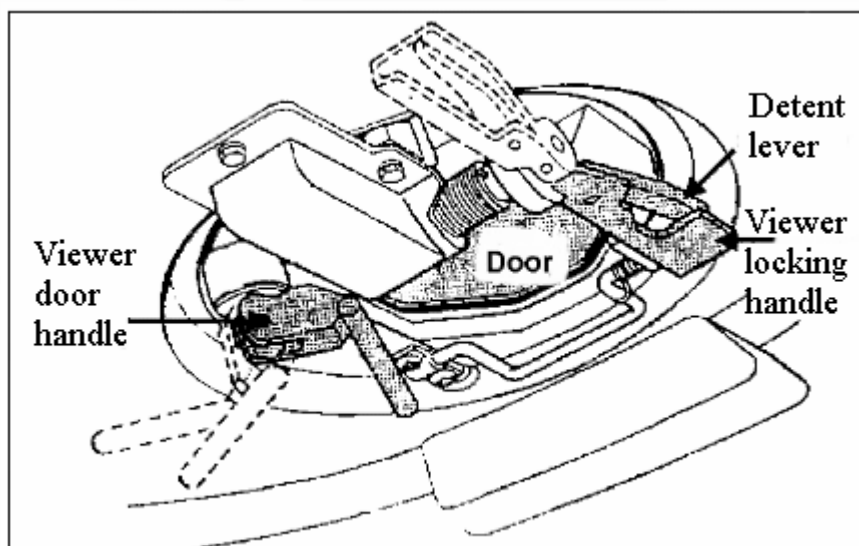

Figure 052-225-1217-1
- b. Open the viewer door by pivoting the door handle downward to raise the door above the hatch. Rotate the handle rearward until the door is fully open. Pivot the handle upward to lock the door into position (Figure 052-225-1217-1).
- c. Unlock the viewer locking handle by pressing in on the detent lever and pulling the handle down and rearward 180 degrees until the handle locks (Figure 052-225-1217-1).